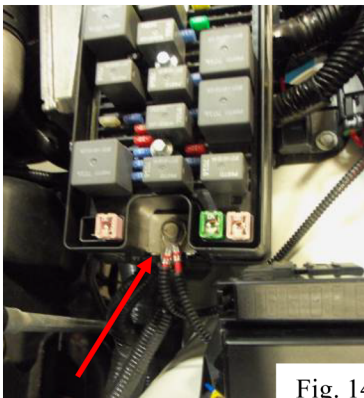

Fig. 14
34) Attach both red wires from the fuse holders to the main power distribution of the fuse box (Fig. 14). Modification of the top of the fuse box may be necessary to clear the wires. A utility knife or similar tool can be used to accomplish this. The picture below shows the piece that may need trimmed (Fig. 15).